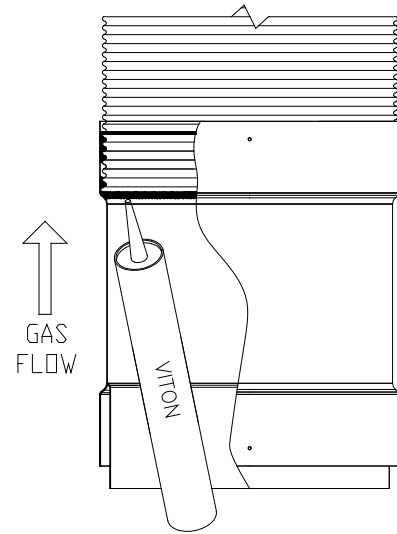

Figure 19-SecureSeal Flex assembly
2.2. Push the adapter on the liner all the way in, until you can't see the mark made on the flexible liner earlier (Figure 19). Make sure that the Viton® caulking is sealed well at the joint inside the adaptor by verifying inside the adaptor.